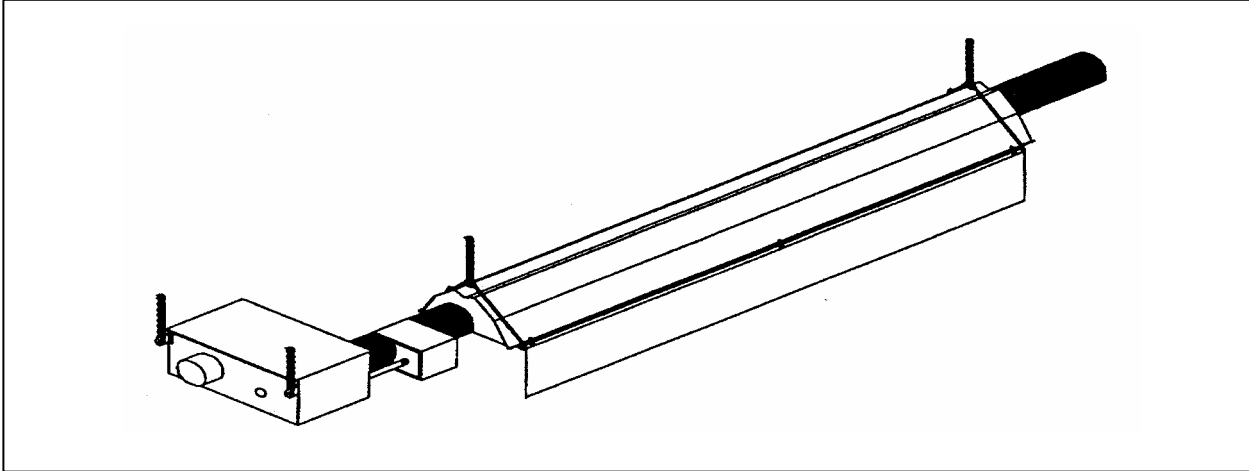

Figure 2-13
2. Install the side shield by hooking the edge holes onto the RCSs (Figure 2-13).